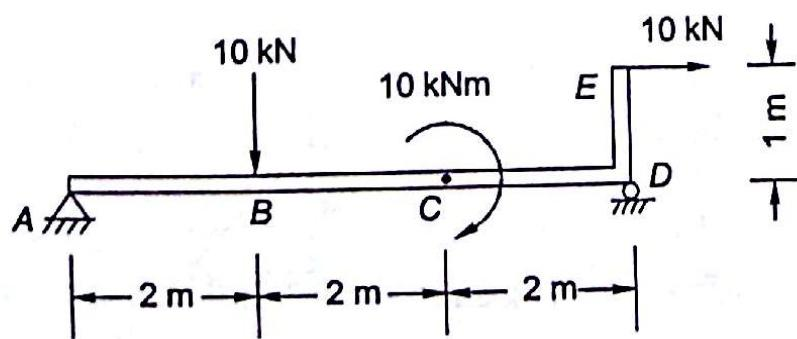

Fig. 2.23
- 2.3 A beam ABCDEF, 6 m long with vertical projection $DE = 1$ m, is subjected to forces and couples as shown in the Fig. 2.23. Determine the simplest resultant of this force and couple system.